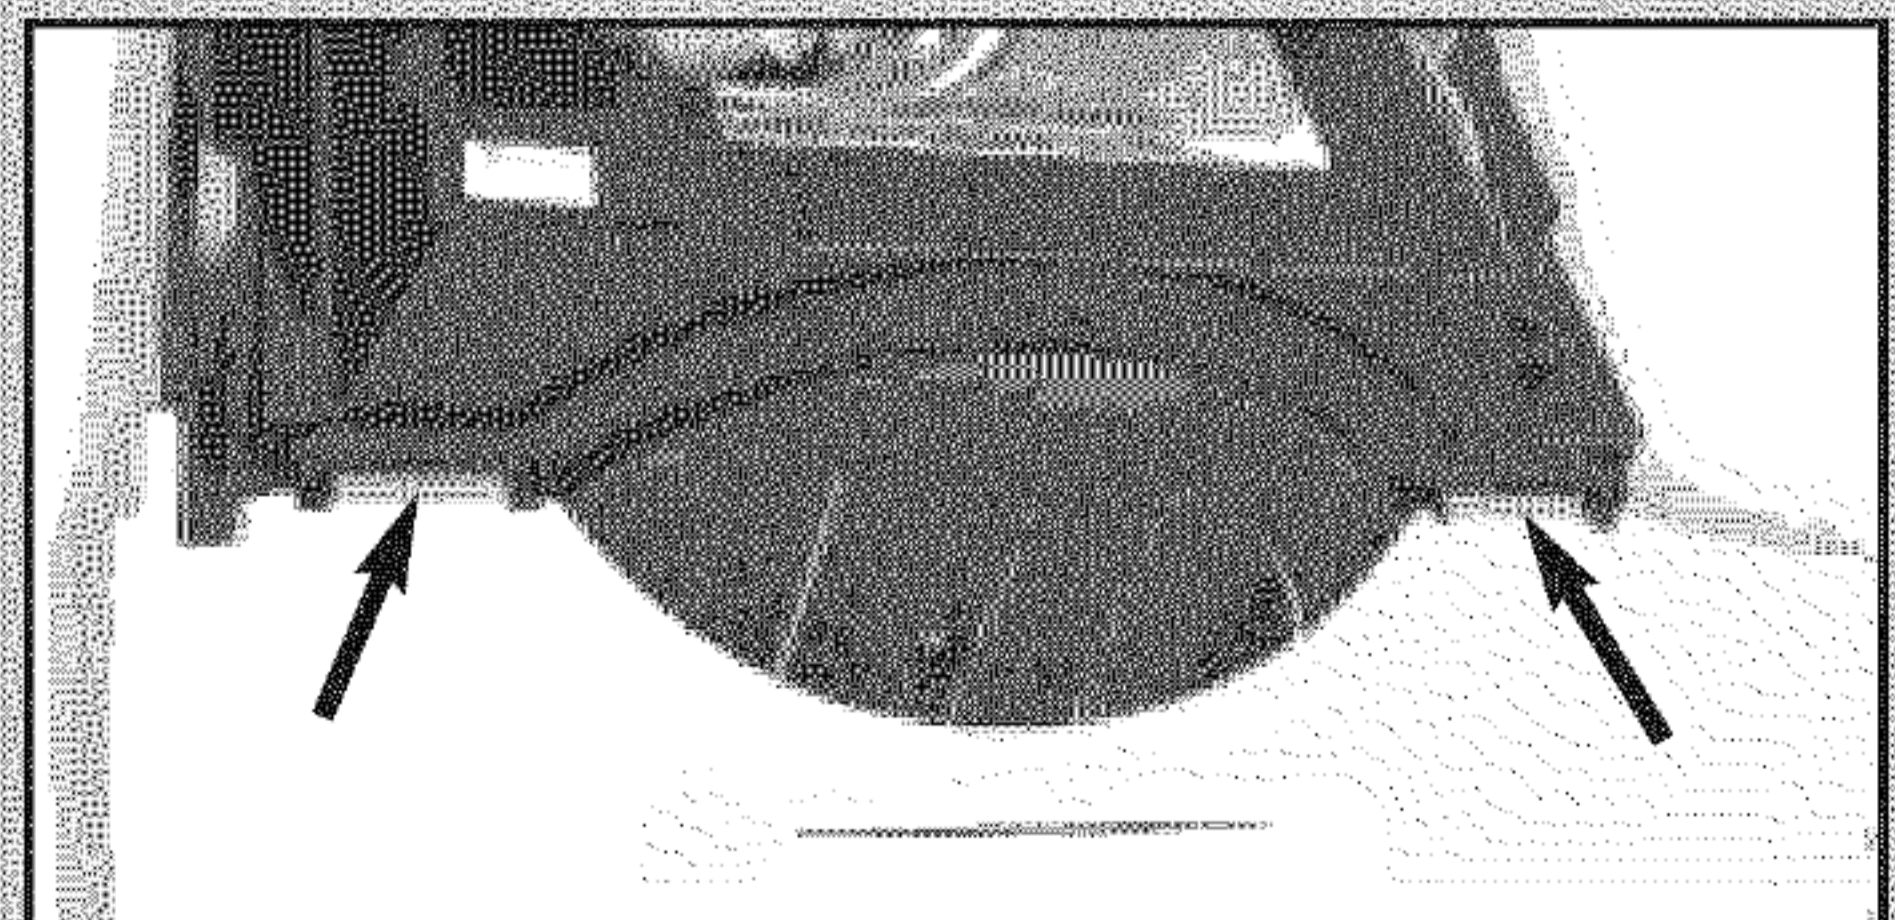

FIG. 10-1 Slide hinges into motor cover
- Slide hinges into slots on motor cover (Fig. 10-1).